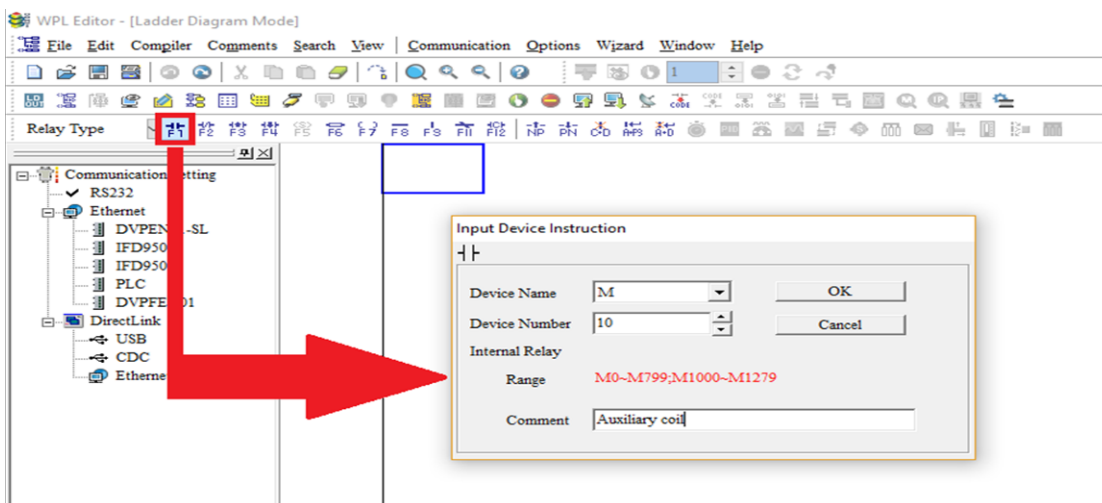

Figure 16-12
Step 2: Click on the always-open switch icon  or press F1. After the name of the input device and the comment dialog box have appeared, the device name (such as "M"), device number (such as "10"), and input comments (such as "auxiliary contact") can be selected; press the OK button when finished (see figure 16-12 and 16-13 below).